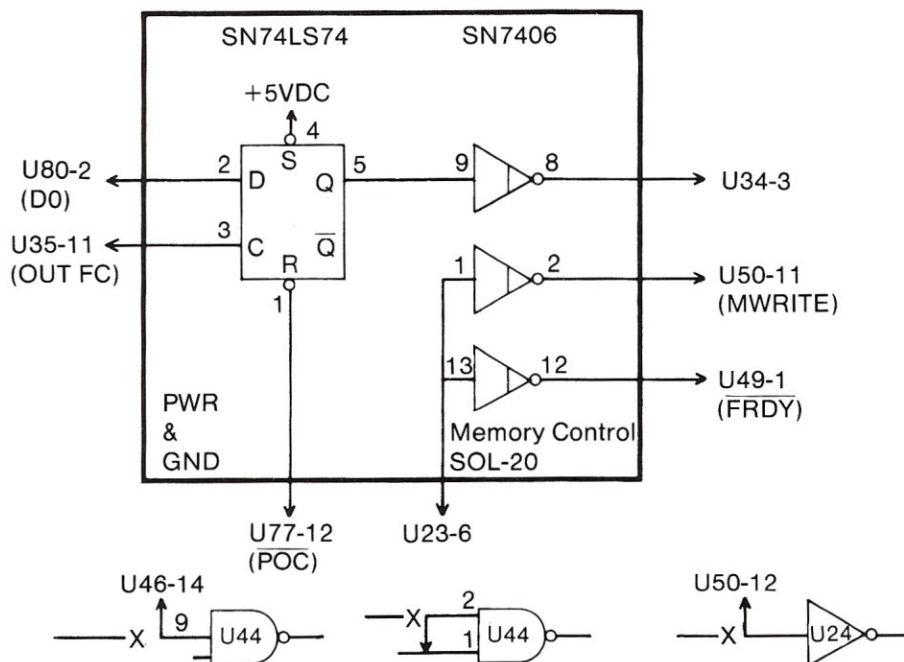

Figure 3.
- Step 1. Build the custom memory management control circuit as shown in figure 3 on a small vector board. Set this board to one side. It will be used in a later step.